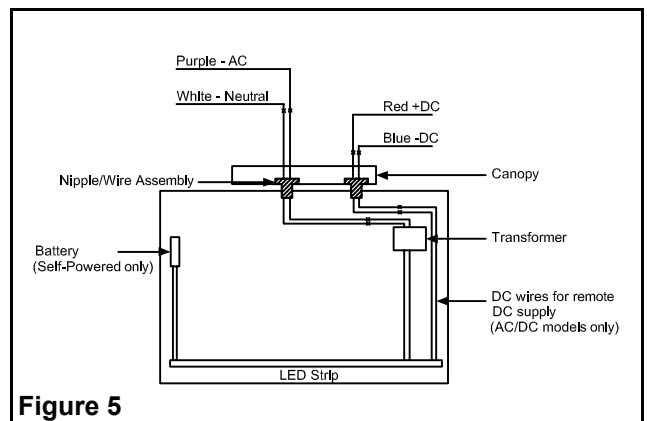

Figure 5
2. **Electrical connections:** Using the sealed AC nipple/wire assembly (3 wires), connect one end to the transformer leads, inside the enclosure, and the other end, to AC line voltage inside the junction box. Connect the white lead to neutral and the purple lead to AC line voltage (the input is universal 110 to 347 VAC). (See fig. 5).
Optional: For AC models used with DC remote power, the sealed DC nipple/wire assembly (2 wires) will also need to be installed. One end connects to the LED-STRIP leads, inside the enclosure, and the other end to DC input inside the junction box. Connect the red lead to positive, and the blue lead to the negative of the remote DC input (See fig. 5).